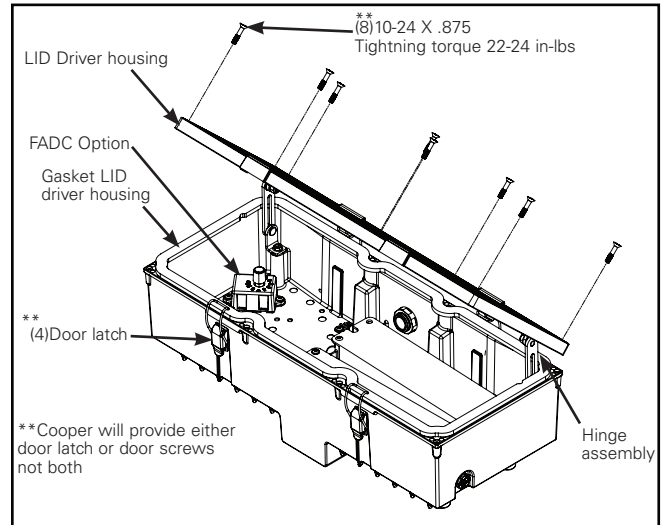

Figure 10.
FADC/FAWS option – If Equipped (Figure 10,11)
1. If driver housing lid is supplied with latches, undo all the latches and let the door swing out. If the driver housing lid is supplied with screws, use torx bit to loosen all door screws. Note the door screws are retained in the door so do not completely remove them from the door (Fig 10).